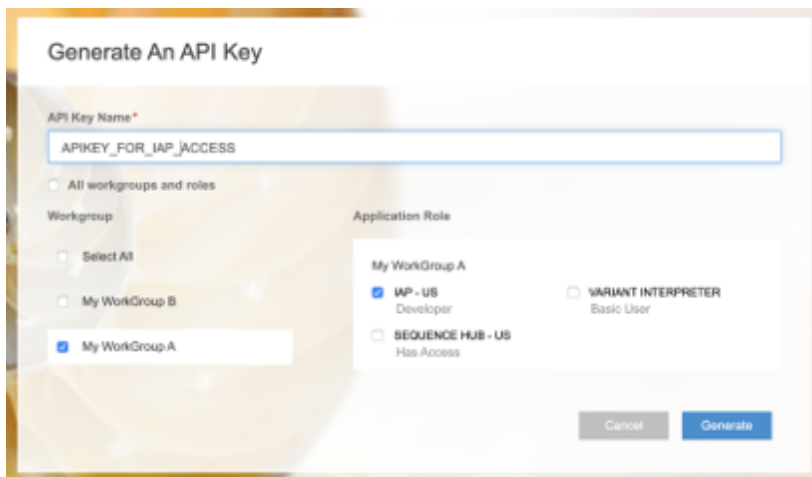

Figure 36: Generate an API Key dialog
- Click Generate to open the Generate an API Key dialog (see **Figure 36**).